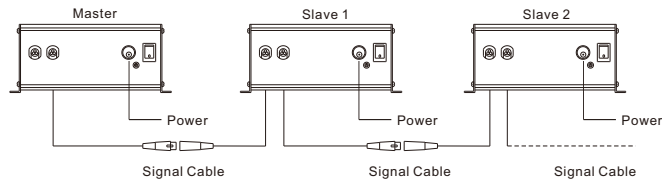

Fig.4
(6) The connection of Master/Slave Control Mode (Fig.4):